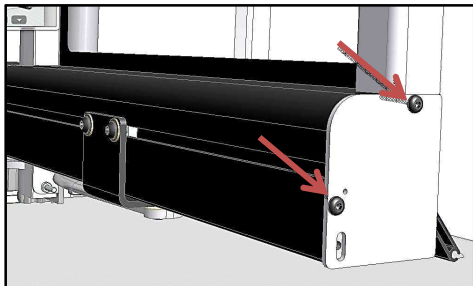

Fig. 3
- Remove the 2 screws on the right side and take away the cover(Fig. 3)